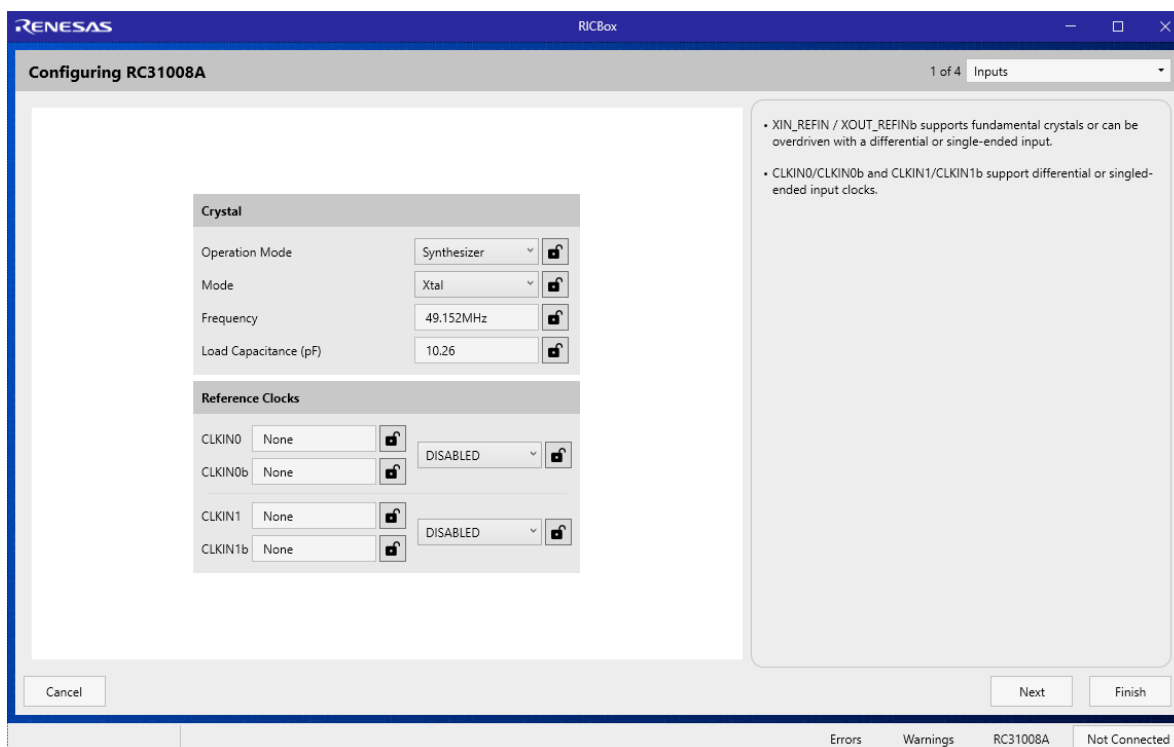

Figure 21. Inputs Wizard Page
5. On the Inputs wizard page (Figure 21), the operation mode can be chosen from Synthesizer, Jitter Attenuation, or DCO. Expected crystal frequency needs to be entered. The C_L can also be set internally between 6pF to 12pF. If a reference clock is needed as an alternate clock source or for jitter attenuation, the expected frequency and type can be set in the Reference Clocks section.